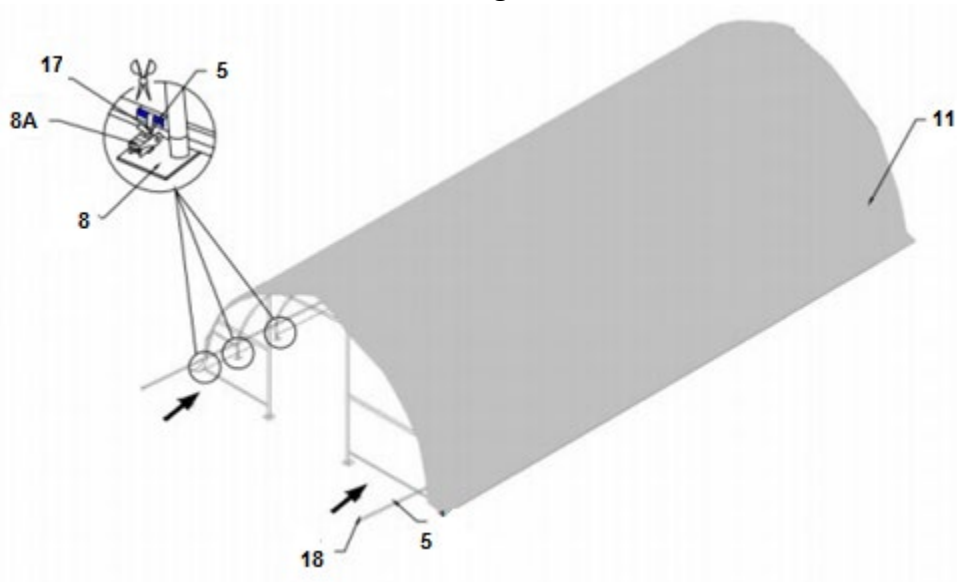

Figure 13
- d. Make small cuts in the cover pocket using a scissors for the ratchet tie down strap to go through. The cuts should be made exactly at the ratchet locations. Loop the strap around the tension tube through the cuts on the cover. Pull the strap through the reel of the ratchet and crank the ratchet back and forth till the roof cover is taut, as shown in *Figures 13 and 14*.